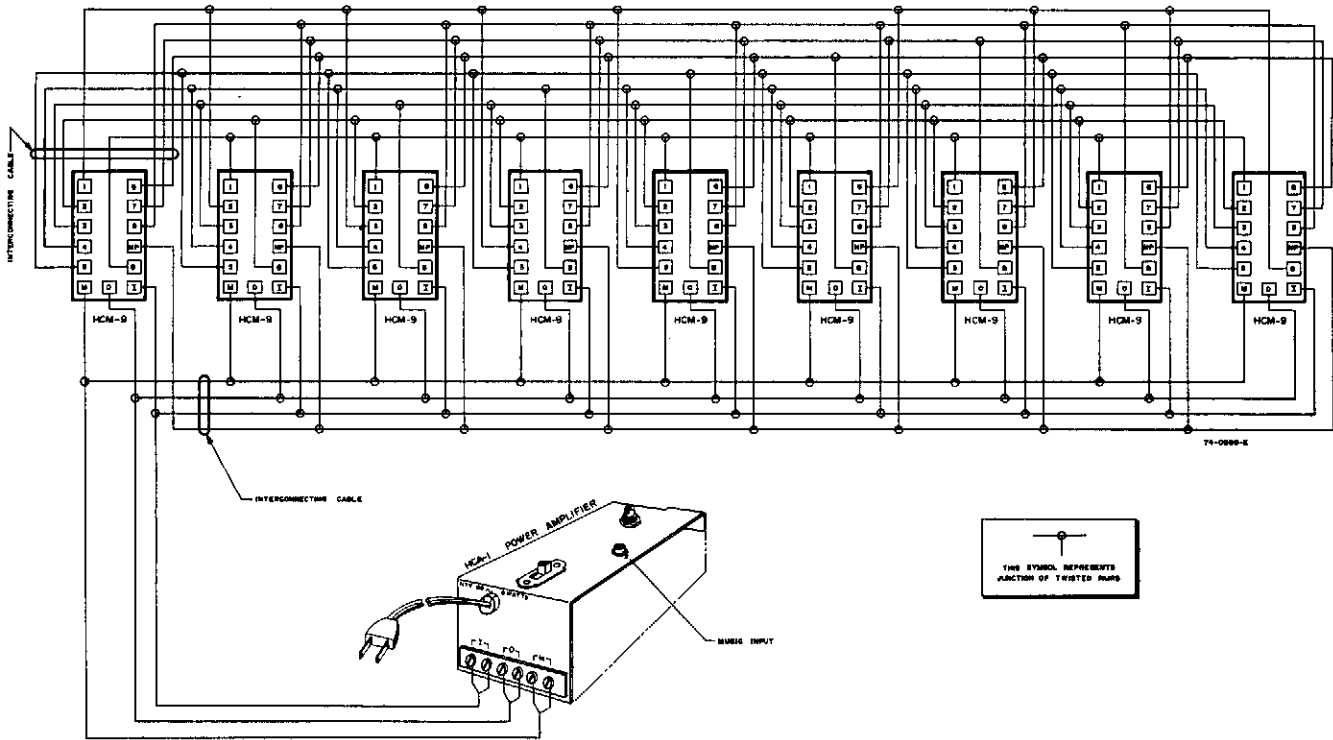

Figure 4 - Interconnection Diagram for Nine HCM-9 Stations
a. COMMON CONNECTIONS: Common connections are those which connect straight through to the same terminals on all control stations. For example, terminals "I" of station 4 are connected to terminals "I" of station 3 and to terminals "I" of station 5, which in turn are connected to terminal "I" of station 6, and to terminals "I" of station 7, and so forth. The common connections of the system are terminals "I", "O", "M", and "NP". The "NP" terminal should be connected only if the monitoring feature of the Home Communo-Phone System is desired. Refer to figure 4 for interconnection and to figure 8 for schematic.